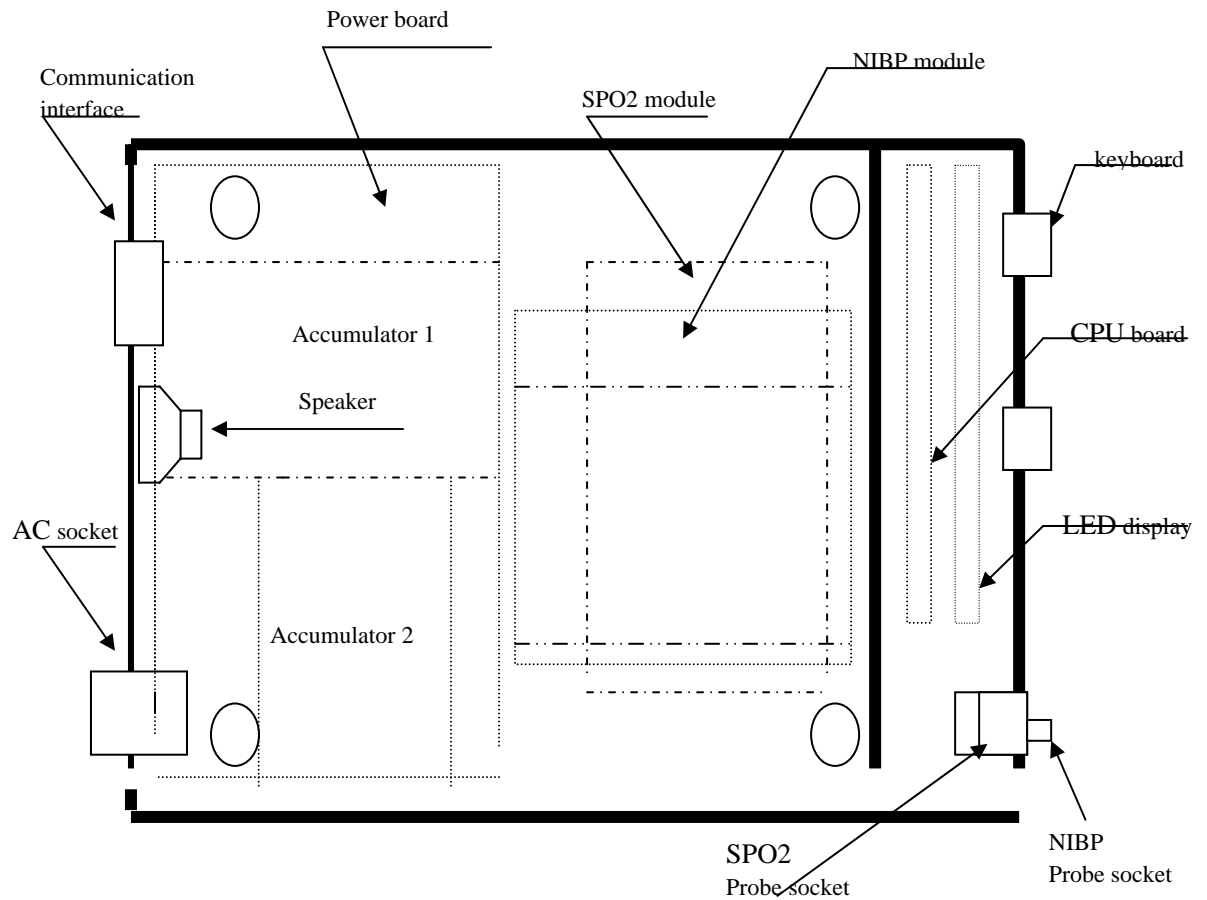

Figure 1-5 Internal structure
2. Internal structure (figure 1-5)